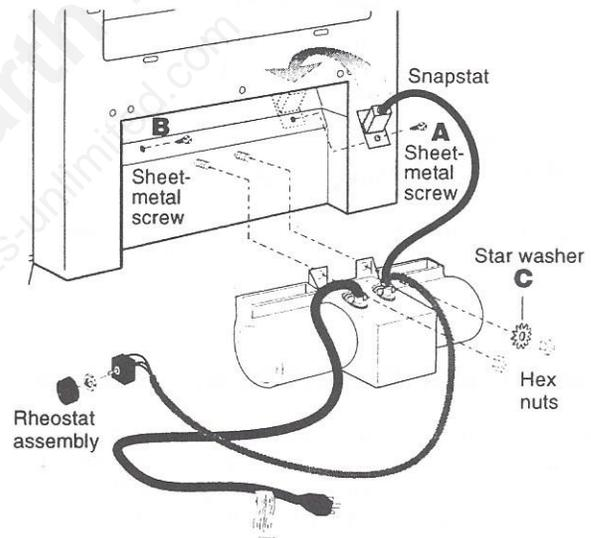
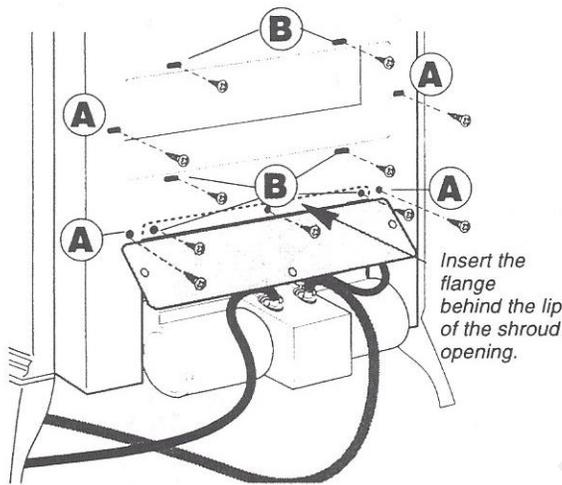

Figure 16. Attach the snapstat and fan assembly to the rear shroud.
Figure 18. Reattach the cover plate and secure the rear shroud to the firebox draft hood assembly.
NOTE: The #2726 / FK26 Fan Kit includes mounting hardware that is not used on your Stardance Natural Vent heater. Use only those parts shown in Fig. 16.
4. Insert one end of the snapstat into the seam at the lower shroud and secure it with one #10 x 1/2" sheet-metal screw from the parts bag, (A, Fig. 16). Use another sheet metal screw to fasten the shroud at the adjacent hole, (B, Fig. 16). Fasten the blower assembly to the studs with the two hex nuts previously removed and one of the star washers from the Fan Kit parts bag, (C, Fig. 16).
- Use three of the #10 x 1/2" sheet metal screws to reattach the rear shroud cover plate as shown in Fig. 18. Finish securing the shroud to the firebox draft hood assembly using first four #10 x 1" sheet metal screws (A) and then six #10 x 1/2" sheet metal screws (B) and at the locations shown in Fig. 16.